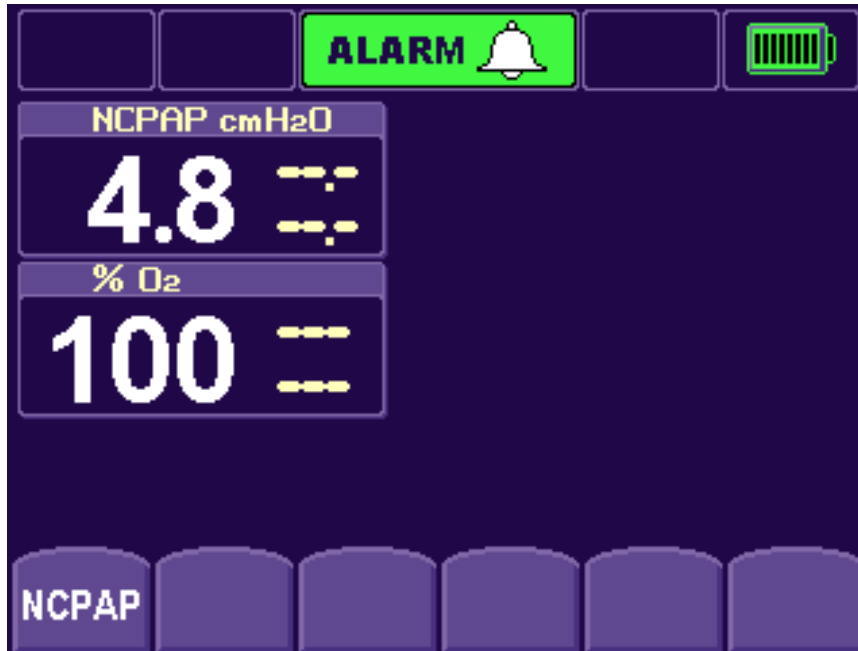

Figure 2
8. Accept the NCPAP settings by selecting the NCPAP soft key. (%O₂ should display 100) (Figure 2).